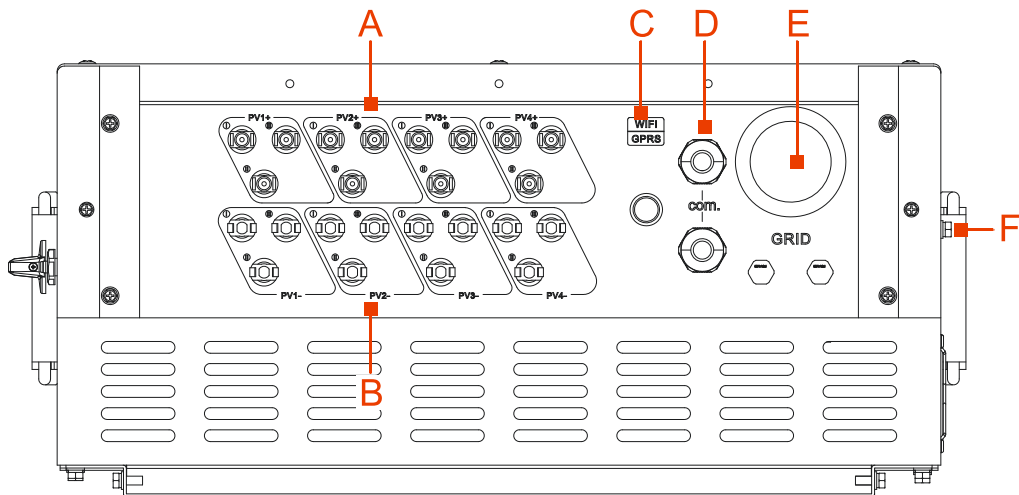

Figure3-9 Connection mark
The wiring for inverter be performed in the bottom of inverter. The mark is as shown in Figure3-9, and the mark meaning is as shown in Table3-1 The recommended wire requirements is as shown in Table3-2.
1. As the SPI30K-B、SPI33K-B and SPI36K-B have six routes of DC input, the three routes of DC input in the mark PV3+, PV3-, PV4+ and PV4- of Figure3-9 don't connect with PV connector. Use plugs to block them.
2. As the SPI40K-B has nine routes of DC input, the three routes of DC input in the mark PV4+ and PV4- of Figure3-9 don't connect with PV connector. Use plugs to block them.